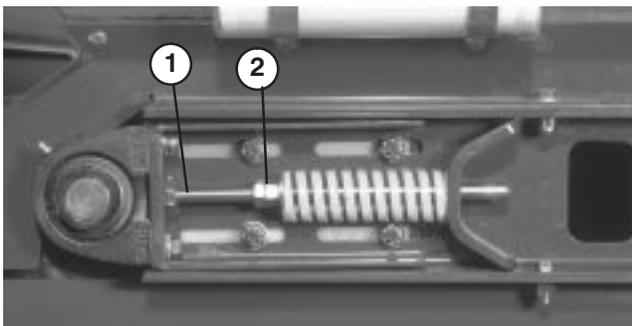

Figure 24
3. Loosen jam nuts and nuts on tension rod to release spring tension (Fig. 24).